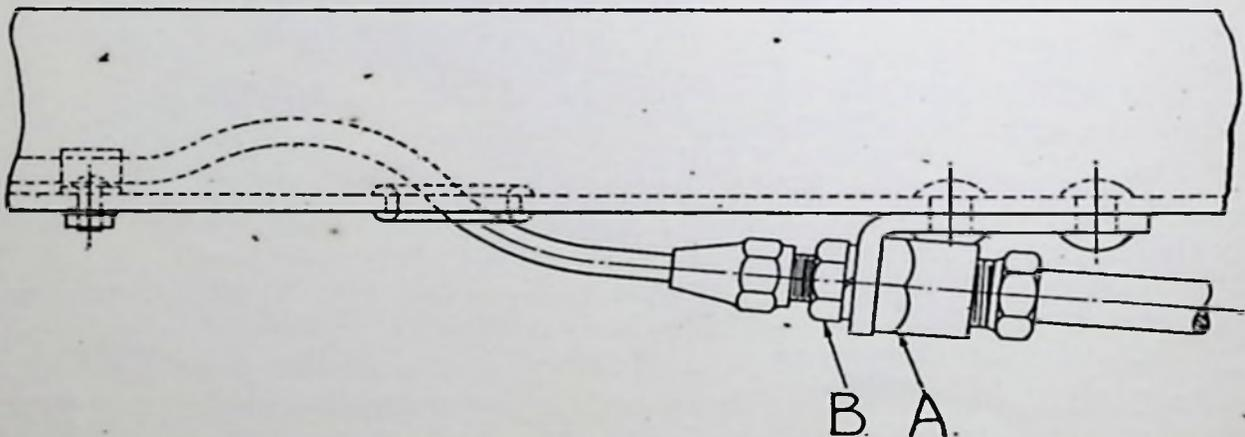

Fig. 4.
REMOVAL OF THE FRONT WHEEL CYLINDER. It is advisable not to unscrew the flexible hose at either end. Proceed, therefore, as follows: Disconnect copper tubing from the hose union (A, Fig. 4) at the frame, then remove the nut and lock washer (B), when the hose union may be removed from the bracket. Unhook the brake shoe return spring. Removal of the two set screws holding the cylinder to the back plate allows the cylinder to be withdrawn with the hose in place.